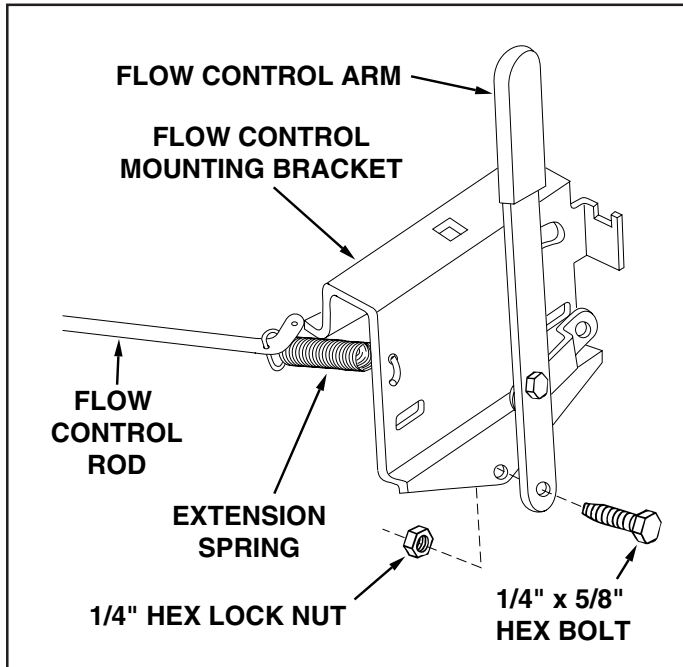

FIGURE 7
18. Assemble the flow control arm to the flow control mounting bracket using one 1/4" x 5/8" hex bolt and one 1/4" hex lock nut. **Do not over tighten.** The flow control arm must pivot freely. See figure 7.
19. Hook one end of the spring through the hole at the bend in the flow control rod. Hook the other end in the hole in the flow control mounting bracket. See figure 7.